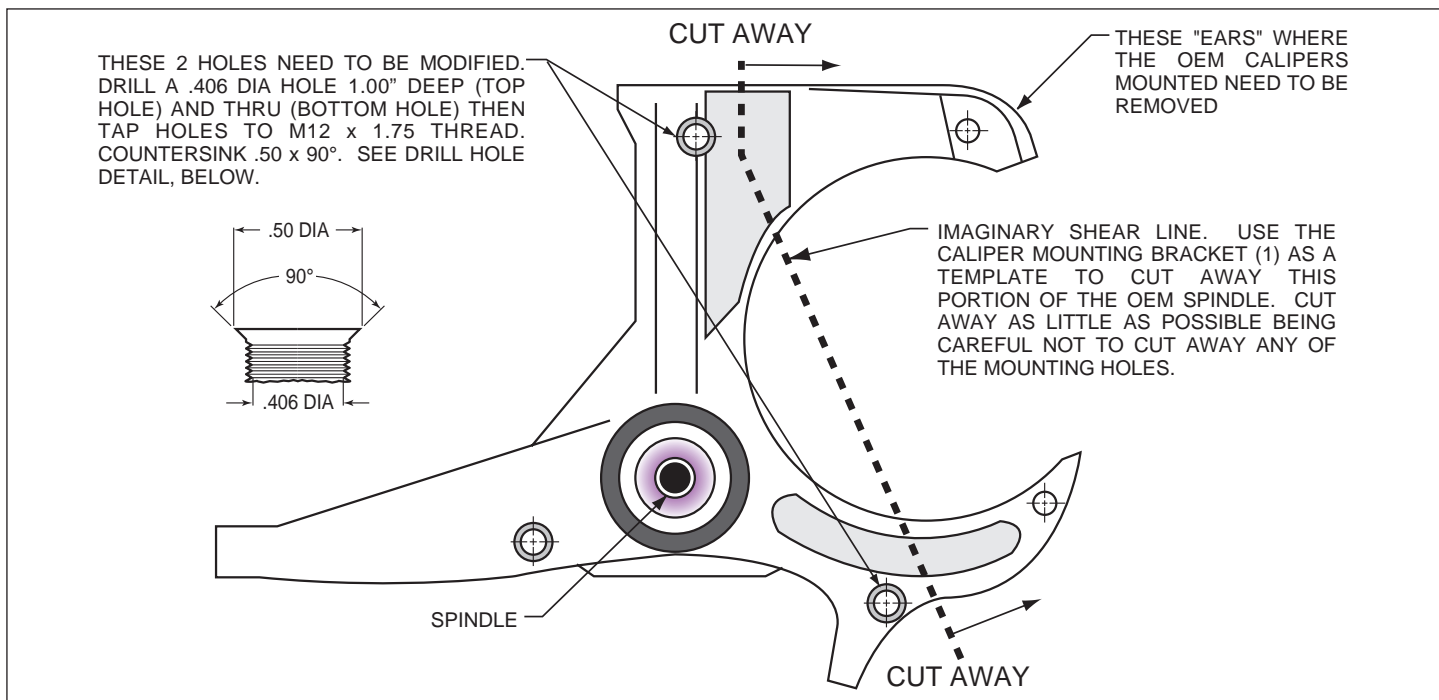
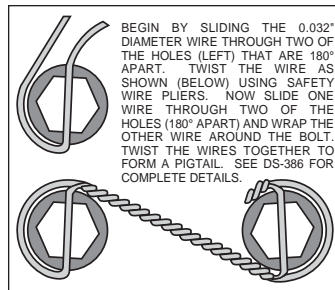

Figure 1. Steering Arm / Spindle Modifications
Figure 4. Safety Wire Diagram
**NOTE:** These modifications should be performed by a qualified machinist and completed before assembly of the Wilwood disc brake kit begins. Refer to Figure 1. Only one view of the steering arm/spindle is shown, but the modifications need to be performed on both steering arm/spindles.
The two OEM holes that will be used to mount the caliper mounting bracket (1) need to be modified. Drill a .406 diameter hole, 1.00" deep (top hole), and thru (bottom hole), Figure 1, then tap holes to M12 x 1.75 thread. Countersink the holes to .50 x 90°. The "ears" that protrude to form a "C" shape need to be removed to facilitate the installation of the Wilwood kit. Using the bracket as a template, mark two cut marks on the steering arm. Remove as little as necessary from the "C" shape, being careful not to cut away any of the mounting holes required to bolt on the bracket.
- Orient the rotor (9) and the hat (10) as shown in Figure 1 and Photo 4. Attach rotor to hat using bolts (11) and washers (12). Using an alternating sequence, apply red *Loctite*® 271 to the threads and torque bolts to 155 **in-lb**. For an added measure of security, the bolts may be safety wired using standard 0.032 inch diameter stainless steel safety wire as shown in Figure 4. Refer to Wilwood's data sheet DS-386 (available at [www.wilwood.com/Pdf/DataSheets/ds386.pdf](http://www.wilwood.com/Pdf/DataSheets/ds386.pdf)) for complete safety wire installation instructions.
- Pack the small outer bearing cone (13) with high temperature disc brake bearing grease and install into hub (6). Slide the hub assembly onto the spindle. Secure using spindle washer (14) and OEM spindle nut, Photo 5. Adjust bearings per OEM specifications. Install saved OEM nut lock (if any) and a new cotter pin (not included).
- Slide the hat/rotor assembly (9/10) onto the hub (6) taking care to align the small countersunk holes in the hat (10) with the small threaded holes in the hub. **NOTE:** The hat must fit flush against the hub face or excessive rotor run out may result. Install three flat head screws (17) through the small holes in the hat (10), Photo 6, and torque to 85 **in-lb**.
- NOTE:** This kit contains distinct right and left hand calipers that must be mounted in a specific direction, as described below. Lubricate the caliper mounting studs (21) with lightweight oil. Initially place two .035" thick shims (22) on each stud between the caliper and the bracket, as shown in Figure 1 and Photo 7. Mount the caliper (18) onto the bracket (1) using lock nuts (19) and washers (20), Figure 1. Ensure that the caliper is mounted so the largest pistons are at the rotor exit end of the caliper, in relation to the direction of rotor rotation. Temporarily tighten the lock nuts and view the rotor through the top opening of the caliper. The rotor should be centered in the caliper, Photo 8. If not, adjust by adding or subtracting shims (4) between the bracket and the upright. Always use the same amount of shims on each of the two mounting bolts. Once the caliper alignment is correct, remove the bracket mounting bolts one at a time, apply red *Loctite*® 271 to the threads, and torque to 60 ft-lb.